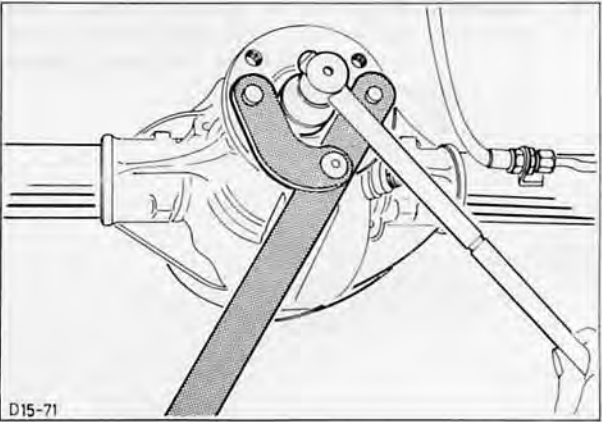

Fig. 133. Hold drive pinion flange and tighten nut slowly
8. Slide on flange, screw on new nut and tighten (holding flange with Special Tool), Fig. 133, until repeated checks show that value measured previously has been reached.